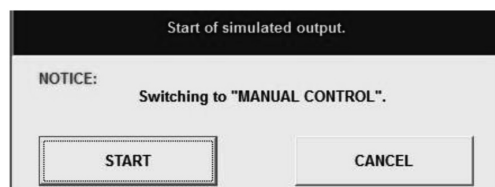

Fig.52
- ② On a message box as shown in Fig. 52, click on "START" if you want to work with the analog output. To abort the output, click on "CANCEL".